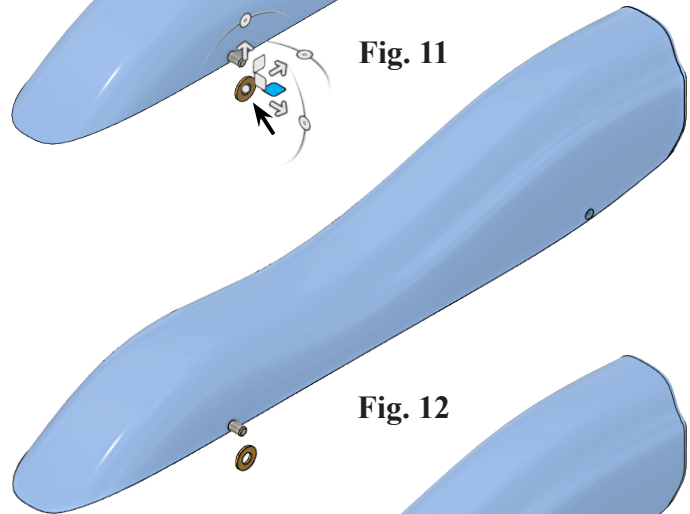

Fig. 12
Step 6. **Repeat** and insert E Clip, Fig. 12.